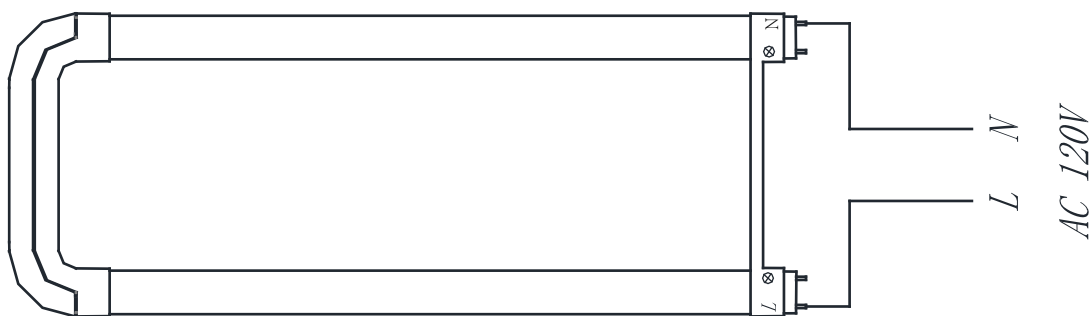

Fig. 3
STEP 6: In accordance with the below drawing, connect the wires of "L" and "N", shown as below Fig. 3: